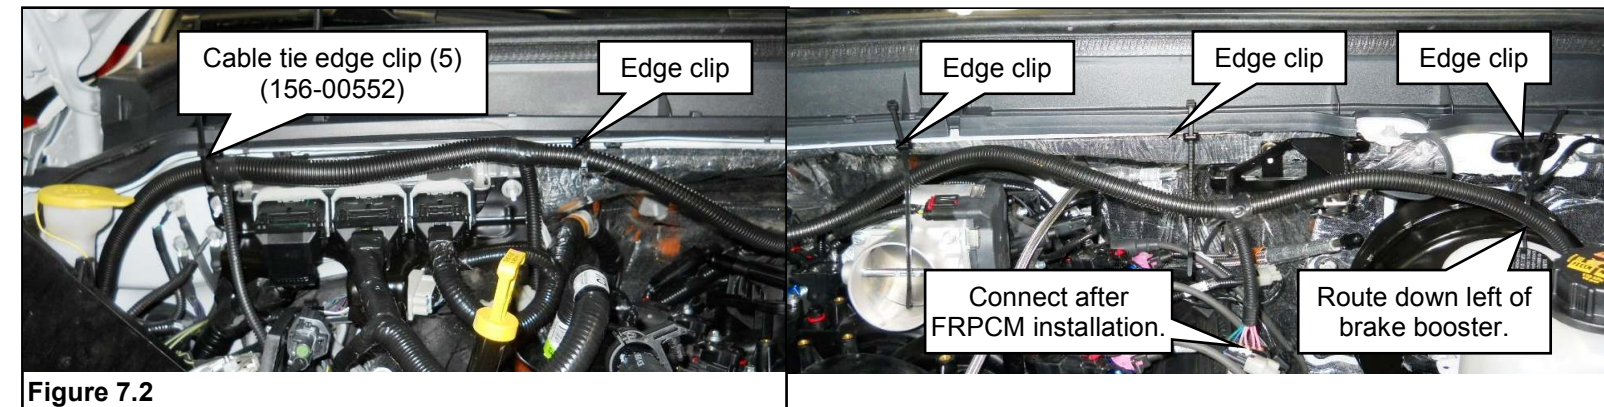

Figure 7.2
9. Install five cable tie edge clips to the top of the cowl area as shown. Route the underhood harness across the cowl over to the left of the brake booster. Attach the harness to the edge clips. **Figure 7.2.**
12. Tighten the cable tie edge clips around the harness to secure the harness. Make sure all connections are routed correctly and attached before tightening. **Figure 7.2.**